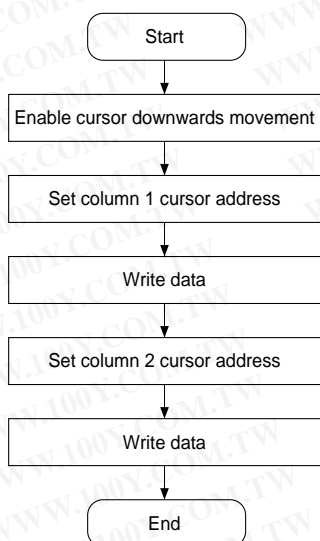

Figure 69. 16 x 16-dot display flowchart
2. The microprocessor sets the display address and writes to the VRAM. The flowchart is shown in Figure 69.